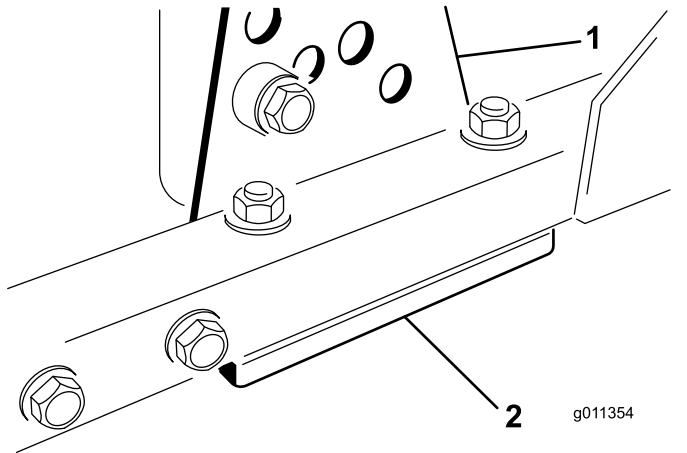

Figure 122
1. Remove the height-of-cut bracket, (front, left, or right) from the cutting-unit frame (Figure 122).
2. Adjust 1.5 mm (0.060 inch) shims and/or 0.7 mm (0.030 inch) shims between the cutting-unit frame and bracket to achieve the desired height setting (Figure 122).